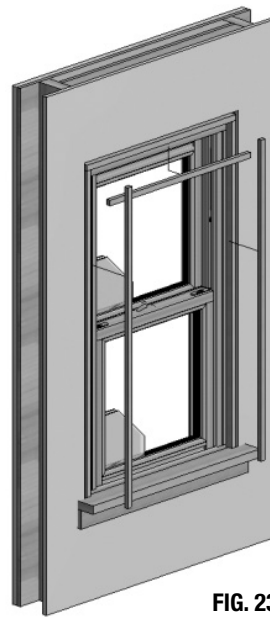

FIG. 23
- E) Once the foam is cured, reapply interior stops. (Fig. 23)